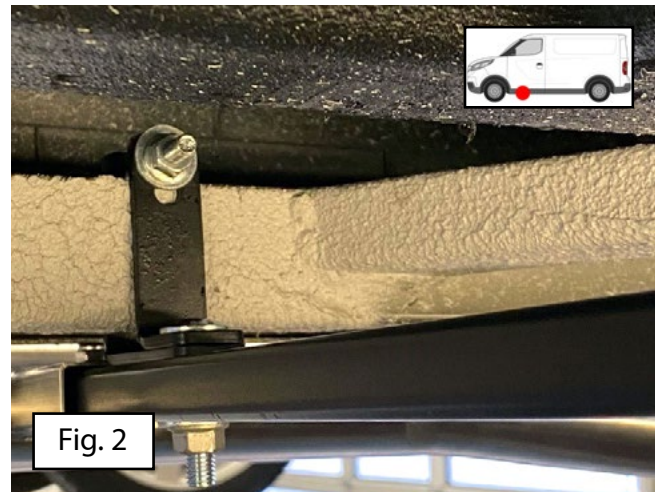
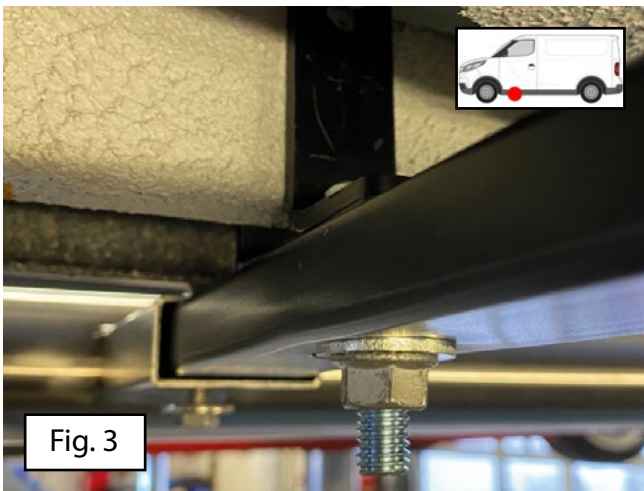

Fig. 2
Fig. 3
3. Start at the front and mount the frame by using part 1, 2, and 3. Do not tighten the frame yet. This gives you room to reposition the sidebars if needed. (Fig. 2 + Fig. 3)